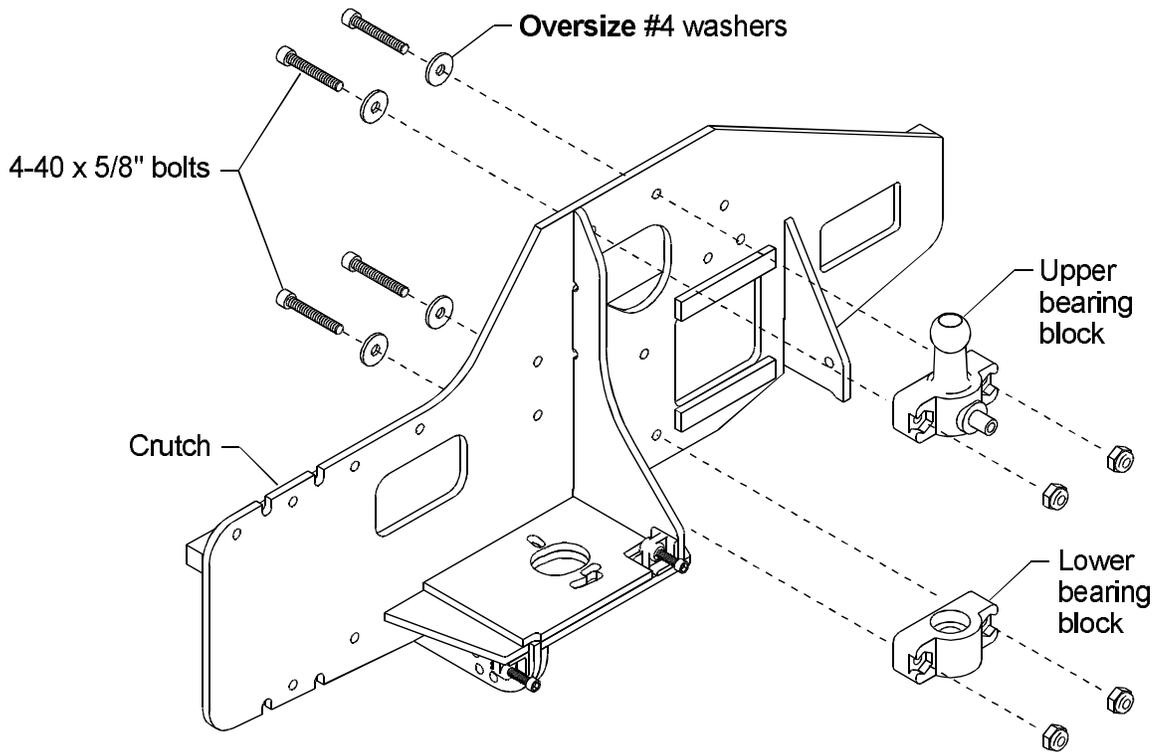

Figure 8-9.
- ❑ 20. Attach the upper and lower bearing blocks to the crutch with 5/8" (16mm) bolts, **OVERSIZE** washers (3/8" or 9.5mm outside diameter), and nylock nuts as illustrated in Fig. 8-9.